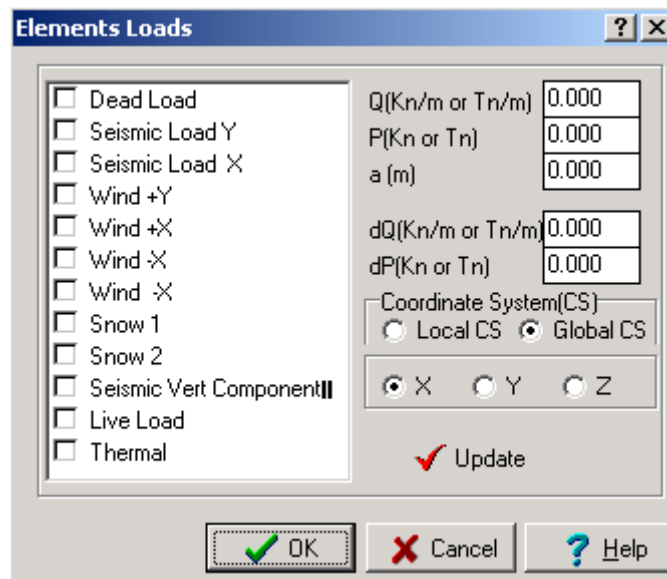

Figure 87 The members' load designation dialogue box.
1. Click on the icon . The dialogue box shown in figure 87 will appear.